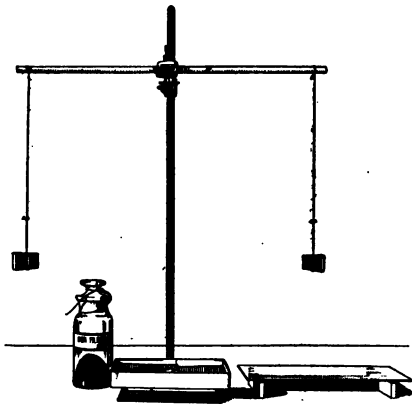

FIG. 36
3. Suspend two bar magnets as shown in figure 36. Mark the ends which point to the north. Remove one magnet and bring the north poles near each other. Try the other combinations suggested below. Record your observations.
4. Lay the bar magnet under the glass as shown in figure 36. Place a piece of paper over the glass and sift iron filings over the paper. Tap the paper gently until lines of filings appear. Make a drawing of the magnet and the lines. Mark each pole as north or south, as the case may be.